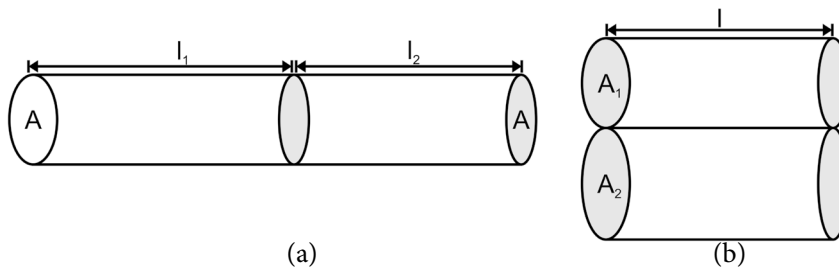

Fig. 4.7 Series and parallel combinations of resistances
If we connect the two wires in series that is , through same area of cross section, than total resistance (R) of combined wires will be (Fig. 4.7 a)
If we connect the two wires in parallel that is, along the length, than total resistance (R) of combined wires will be (Fig. 4.7 b)